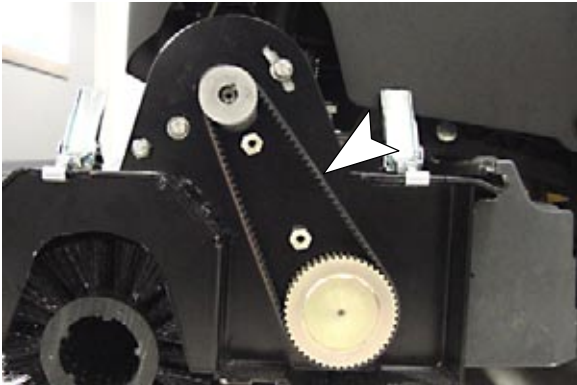

FIG. 42
5. Check brush belt tension. Proper belt deflection should be 6.35 mm (0.25 in) at midpoint, with 5.44–5.81 Kg (12.0–12.8 lbs) force (Figure 42).